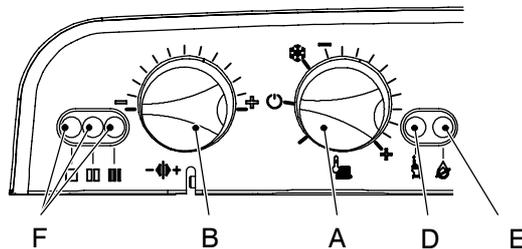

Fig. 5
- 4 Turn the boiler OFF positioning the function selector A as indicated in Fig. 5.